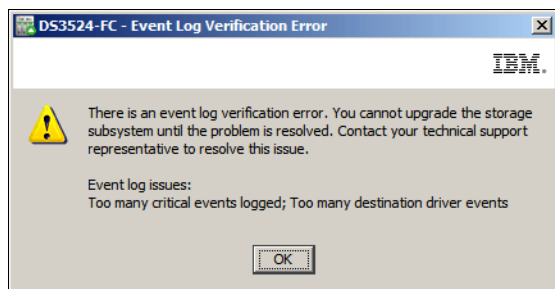

Figure 14-67 Event Log Verification Error
2. Sometimes after selecting the **Download controller firmware** option, a window similar to the one shown in Figure 14-67 will appear. As in the example shown below, this can occur if the DS3500 has logged too many critical events.